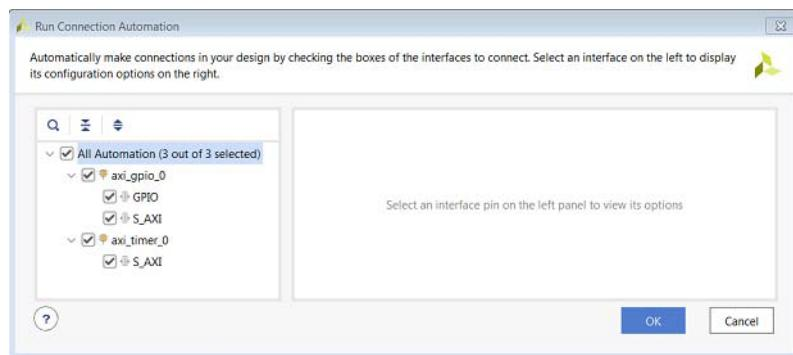

Figure 3-4: Run Connection Automation Dialog Box
16. In the Run Connection Automation dialog box, ~~select the check box next to All Automation~~, as shown in Figure 3-4. Only select automation for S_AXI, leave the boxes for GPIO and GPIO 2 unchecked